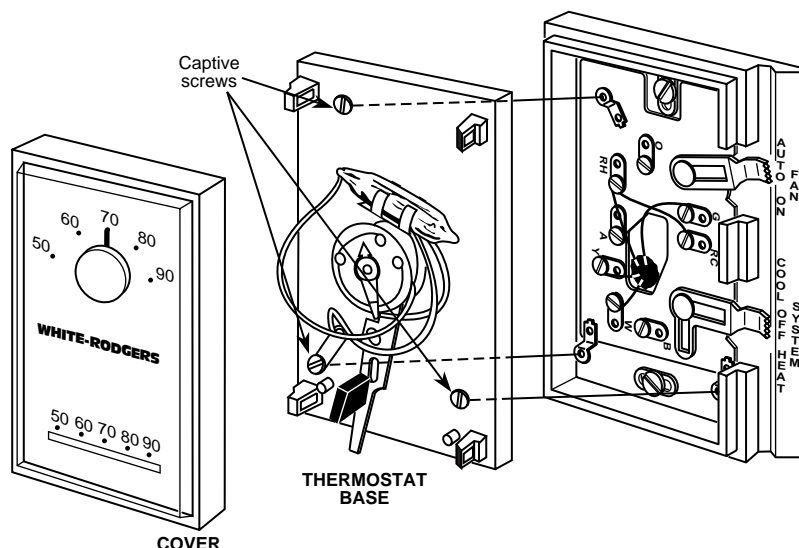

Figure 7. Attach thermostat to subbase
3. Attach thermostat base to subbase, being sure that all captive screws are tightened snugly, since they serve as electrical connections between thermostat and subbase (see fig. 7).